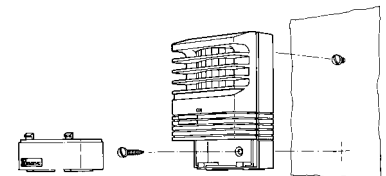

Figure 3. MINI-ALERT Wall Installation
- Mount the key-slot (on the case rear) over the head of the screw (Fig. 3). Adjust the screw so that the unit is held as close as possible to the wall, to avoid vibrations.